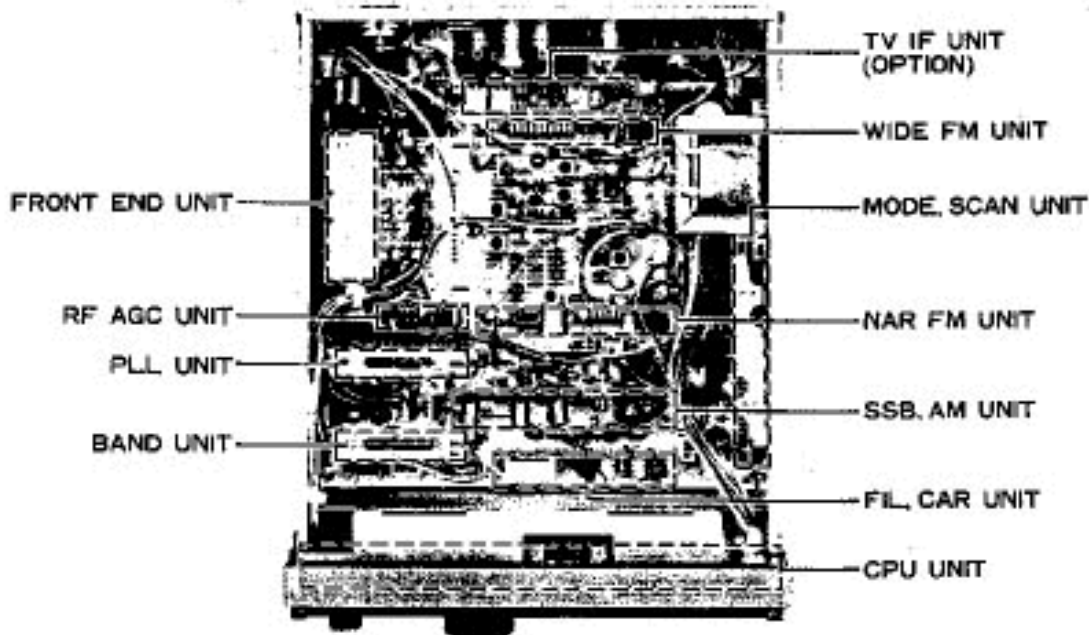

Figure 1
- (b) Tune the receiver for 106.999.9 on the display, and adjust the pitch of the coil indicated in Figure 1 for 26  $\pm 1$ V at TP3002. Remove the meter and replace the cover on the module.